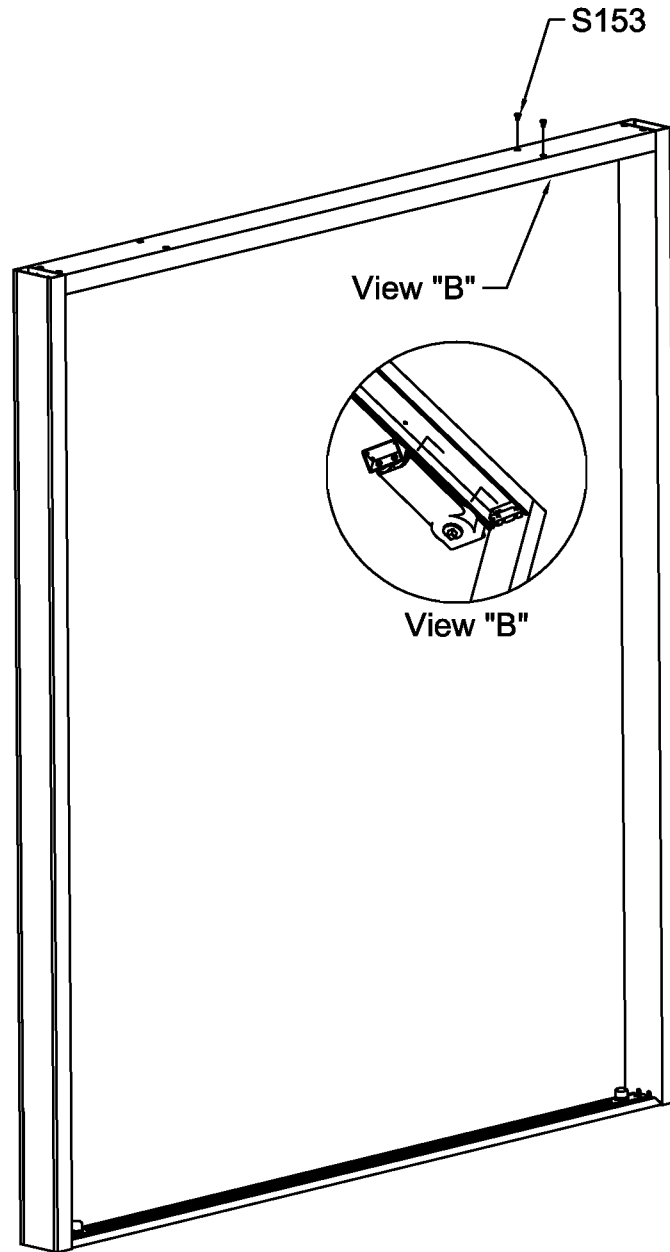

Figure 5
5. Attach closer arm onto closer and tighten screw onto closer spindle. See Figure 5.
12. Hold closer in place and screw S153 screws as shown in Figure 5 from top of frame.